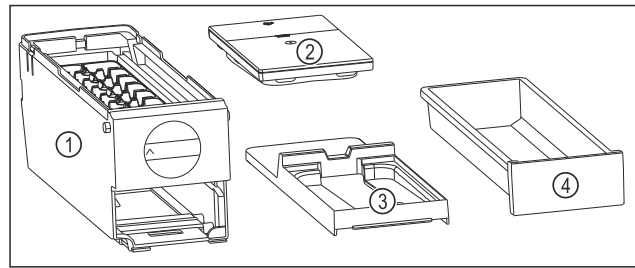

Fig. 84 Components of the EasyTwist-Ice
- ▷ EasyTwist-Ice is dismantled into four parts. (see Fig. 84)
- ▶ Only dismantle the EasyTwist-Ice into the components shown. (see Fig. 84)
- ▶ Clean the EasyTwist-Ice body Fig. 84 (1) as a whole.